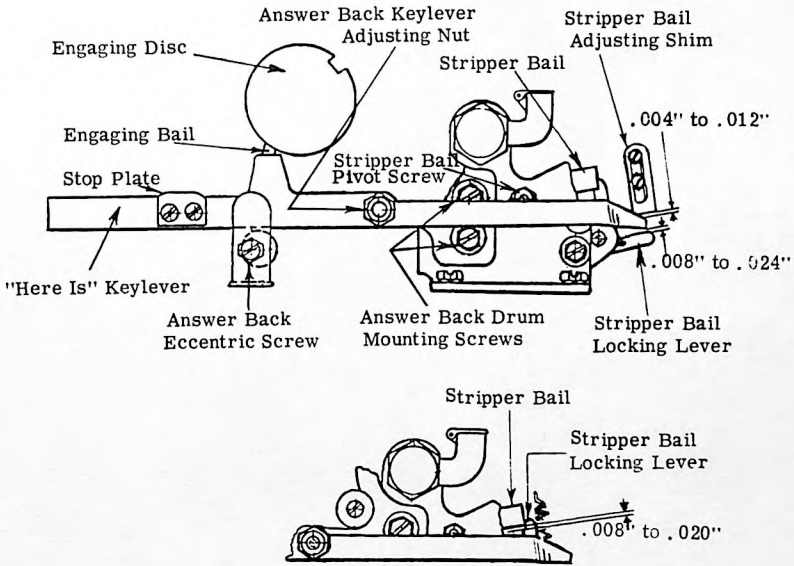

Figure 5
2.1 Stripper Bail Pivot Screws (Figure 5)
2.2 Stripper Bail Locking Lever (Figure 5)
- 2.5      Answer Back Keylever (Figure 5)
- 2.6      Stripper Bail Adjusting Shim (Figure 5)
- 2.8      Answer Back Keylever Eccentric Screw (Figure 5)
- 2.13 Answer Back Keylever Stop Plate (Figures 5 and 8)